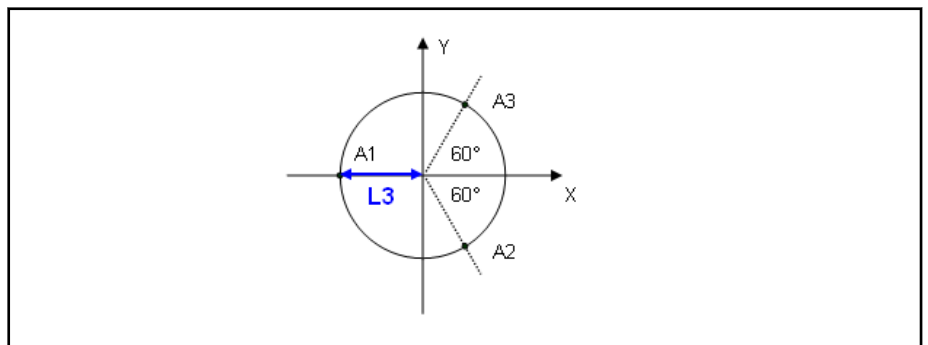

Fig. 4-42: Radius L3 of the joint base and the coordinate system (X-Y view)
- L_3 is the radius of the perimeter formed by the three motor spindles (or gears), measured at the rotary center points of the arms (see fig. 4-42 "Radius L3 of the joint base and the coordinate system \(X-Y view\)" on page 149)
- The Cartesian zero point for the Delta robot is at the center point of the perimeter defined by the three motor spindles (see also fig. 4-42 "Radius L3 of the joint base and the coordinate system \(X-Y view\)" on page 149).